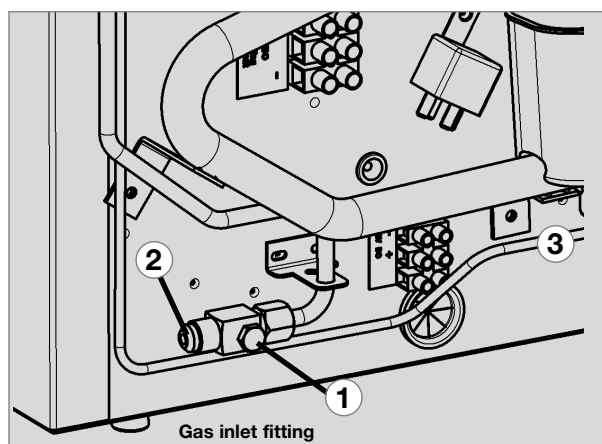

Fig. 22
- **The gas connection to the appliance is effected by means of suitable coupling tube fitting (s. figure 22).**